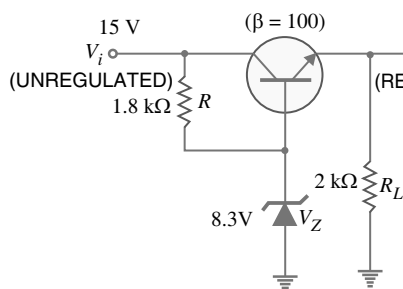

Fig. 15.34
4. Calculate the output voltage and zener diode current in the regulator circuit of Fig. 15.34. [7.6 V, 3.66 mA]